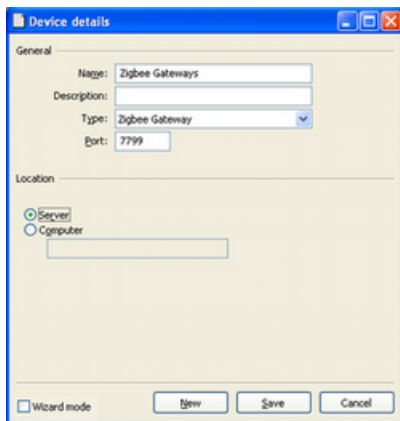

Figure 9
2. When the fields have been filled in according to Figure 9 (port 7799 is pre-filled as default when choosing 'ZigBee gateway' at **Type**), click **Save** and **Close**.